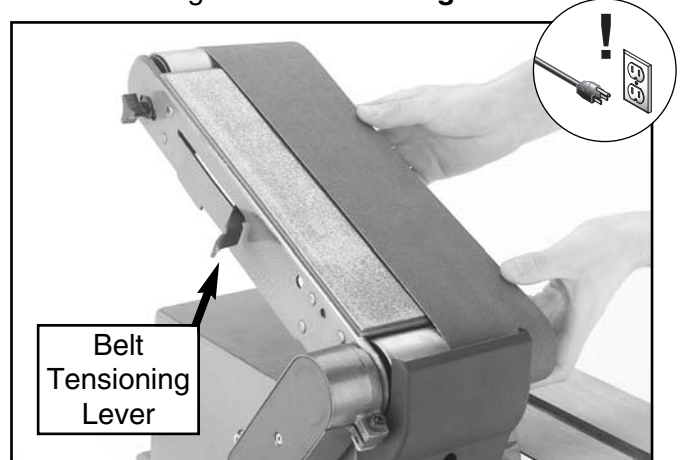

Figure 13. Installing belt.
2. Loosen the belt tension by pulling out the tensioning lever shown in **Figure 13**.
3. Slide the belt onto the drive drums as shown in **Figure 13** and release the belt tensioning lever.